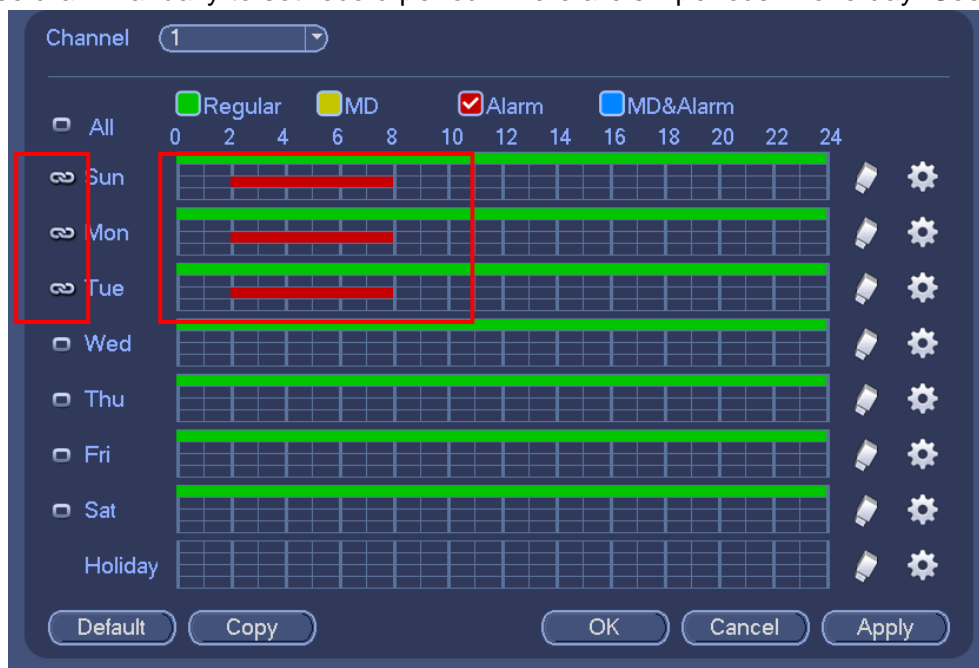

Figure 4-101
- ✧ Please draw manually to set record period. There are six periods in one day. See Figure 4-101.